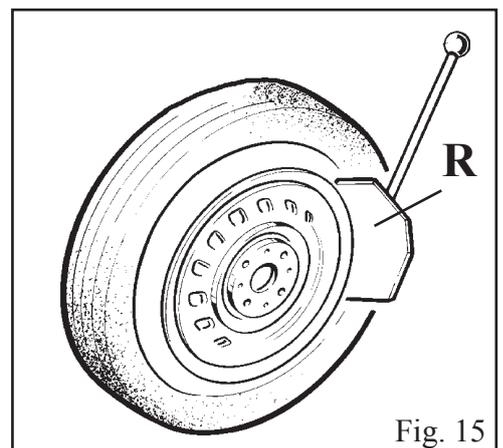

Fig. 15
- *Position the wheel against the rubber stops on the right side of the tyre changer (S).*
- *Position the bead breaker blade (R) against the tyre bead at a distance of about 1 cm from the rim (fig.15). Pay attention to the blade, which must operate correctly onto the tyre and not onto the rim.*
- *Press down the pedal (U) to activate the bead breaker and release it when the blade has reached the end of its travel or in any case when the bead is broken.*